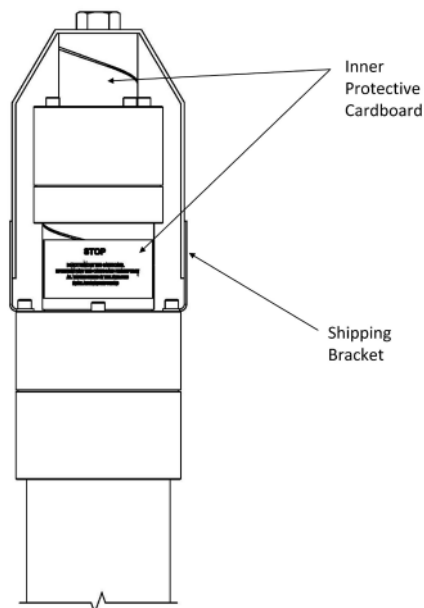

Figure 15: Shipping bracket
- 1) Carefully remove the outer protective cardboard from the jack, but leave the inner protective cardboards in place (Figure 15).
- 4) Connect the oil feed line and remove the shipping bracket (Figure 15). The upper section of each jack is filled with high-lubricity oil for ease of installation and operation.
- 12) Jog pump/motor to move the pistons a few inches. Remove the inner cardboards from the jack (Figure 15).